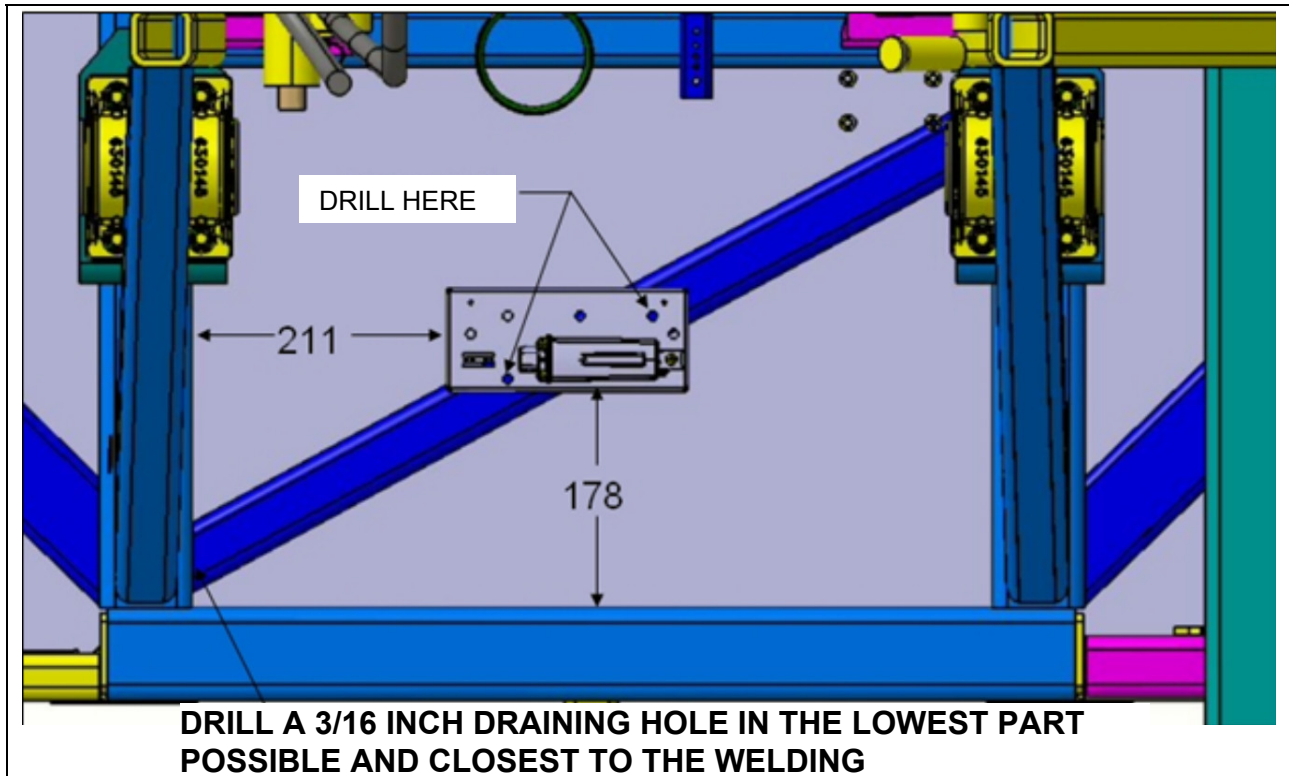

FIGURE 2
3. Position support onto structural diagonal post at the location indicated in figure 2 and drill two 3/16 inch holes.
4. Also drill a 3/16 inch draining hole in the lower part of the diagonal post (Refer to figure 2).